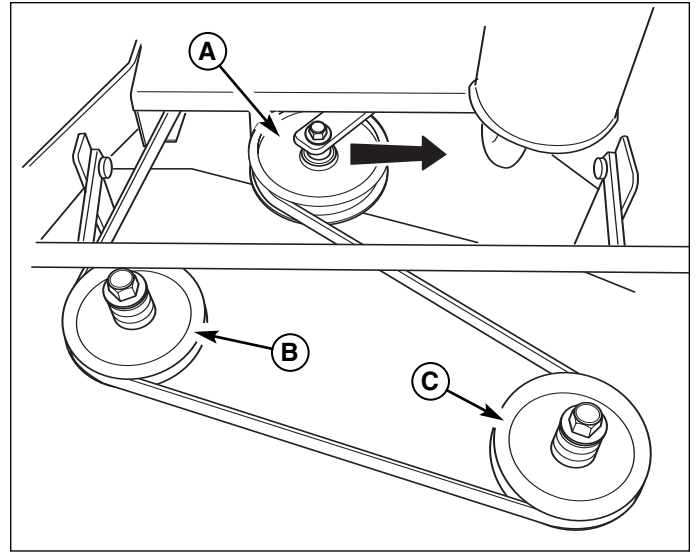

Figure 18. Mower Deck Drive Belt
3. Push the idler arm towards the left-hand side of the machine to release the spring tension on the drive belt. (See Figure 18)
4. Slide the drive belt over the edge of the idler pulley (A). Release the idler arm.
6. Install the drive belt on the spindle pulleys and the PTO clutch pulley. Again, push the idler arm towards the left-hand side of the machine and install the belt onto the idler pulley (A).